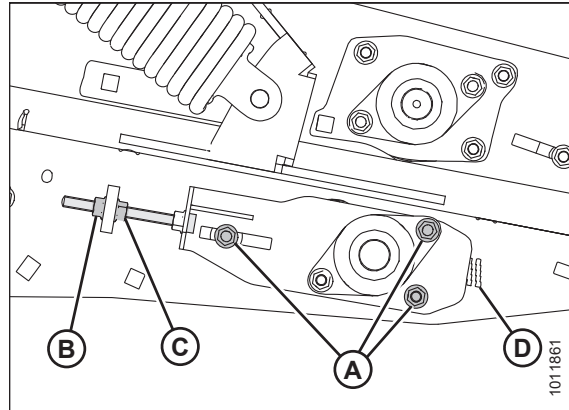

Figure 7.10: Rear Deck – Right Side Shown
7. Tighten clamp bolts (A) and jam nut (B).
8. Note the position of indicator (E) and set the right side [indicator notch (D), Figure 7.10, page 114] to the same position.